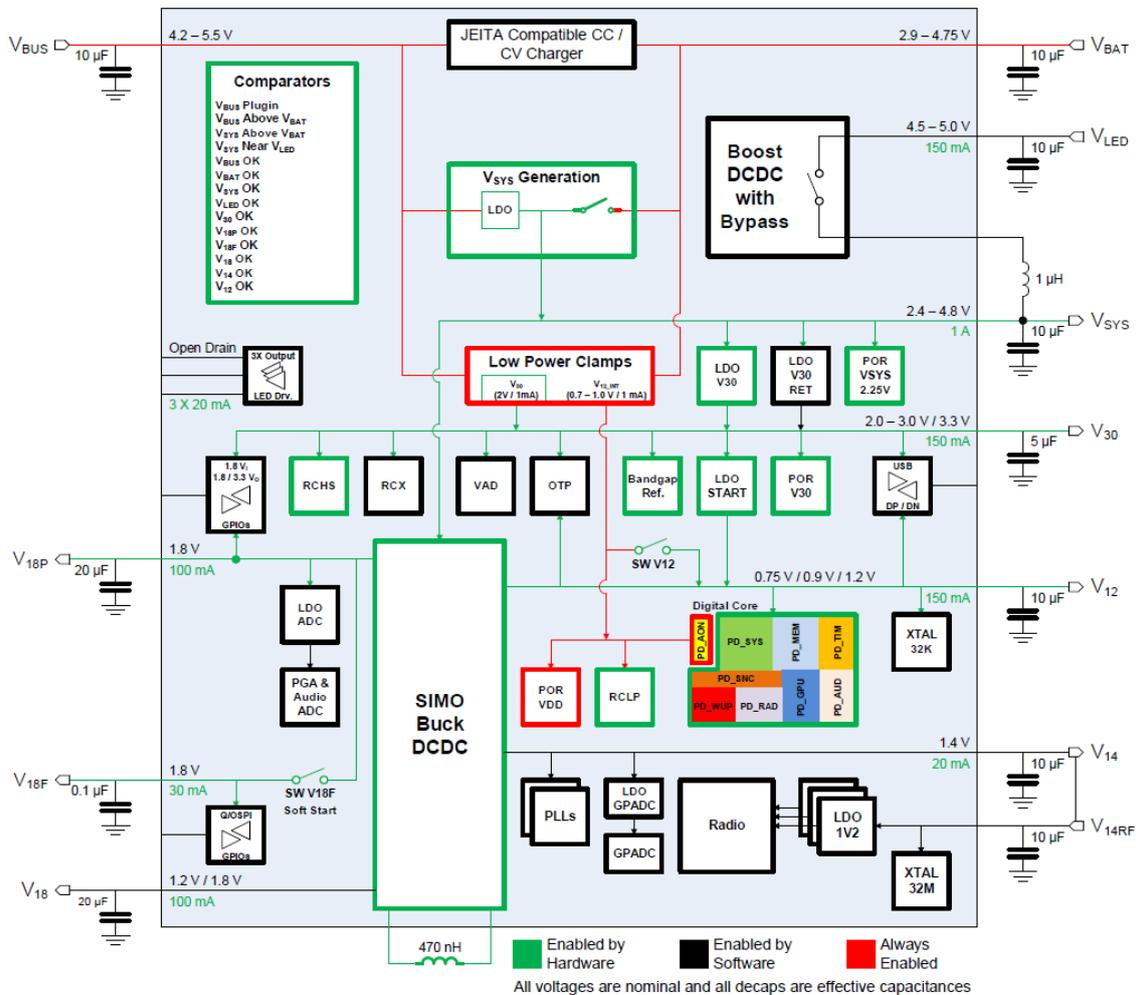

Figure 6: DA1470x Power Management Unit Block Diagram
There are certain parts of the power management unit (PMU) which are always powered. They are marked red in Figure 6. HW and SW enabled blocks are marked with green and black respectively.
- **V18F:** This is generated from V18P, through an internal semiconductor switch. It delivers, 1.8 V to the external XIP OQSPI FLASH (V18F) as well as the OQSPI I/Os connected to this FLASH. V18F can deliver up to 30 mA. (Figure 6).